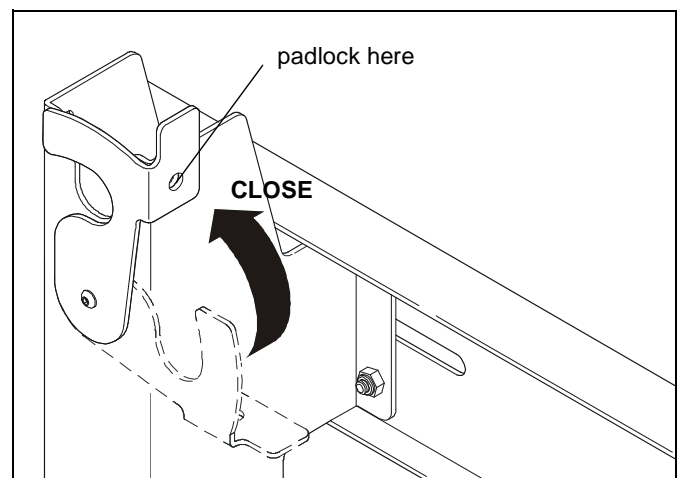

**Figure 5**
2. Install eight mounting buttons (E) onto display using eight M8 x 45 button head cap screws (D). (See Figure 5)